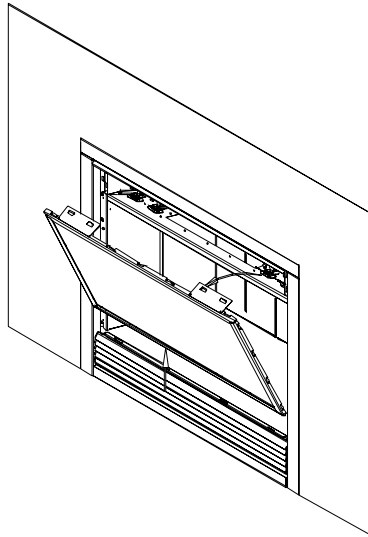

Figure 4.2 – Glass Door Removal
5. Rotate the top of the door outwards, and lift out (see Figure 4.2).